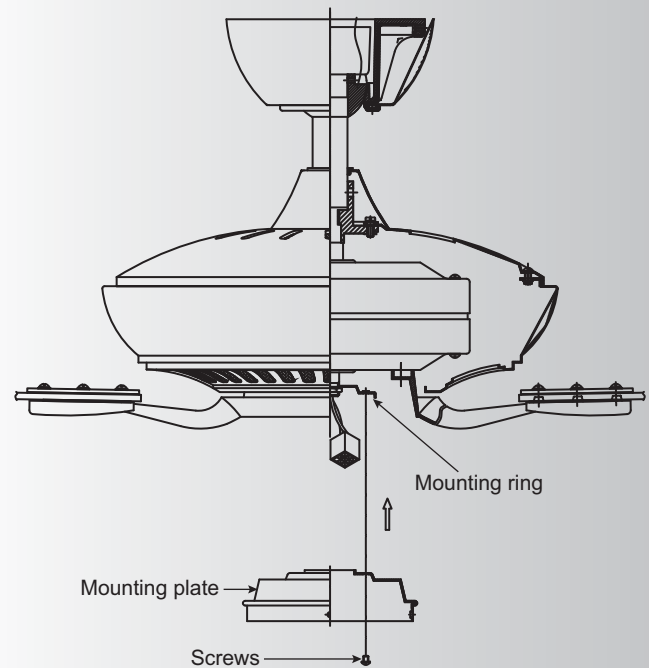

Fig. 15
Step 1. Loosen the two screws on the mounting ring attached to the motor shaft and "remove" and save the third screw. (Fig. 15)